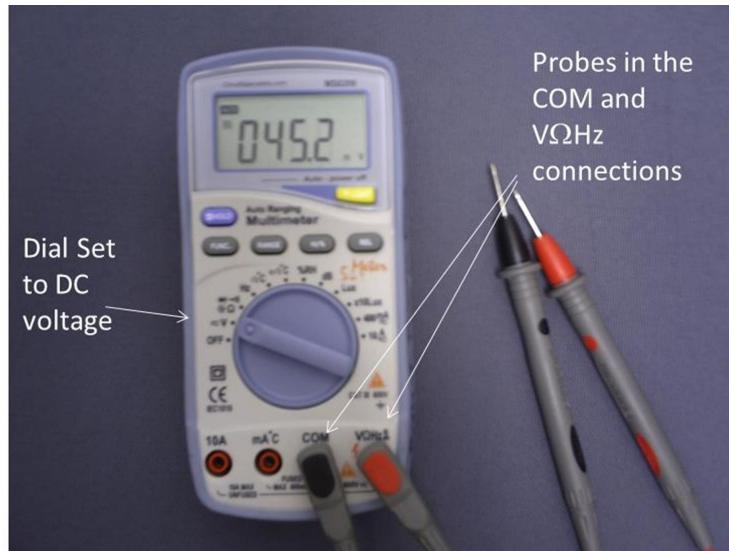

Figure 2.7: A multimeter set to measure DC voltage.
Our first measurement device is voltmeter. It measures the electric potential (voltage) between its two leads (sometimes called "probes"). Figure 2.7 shows an example of a multimeter set to measure voltage. The display is set to read voltage by turning the dial to the V position. There are often two voltage settings. The one that has a wavy line next to it is alternating current (AC) voltage. The one that has a straight line with three dots under it is the direct current (DC) voltage. For now, we will just use the DC voltage setting. The leads (probes) should be connected to the COM (common) and VΩHz connectors.